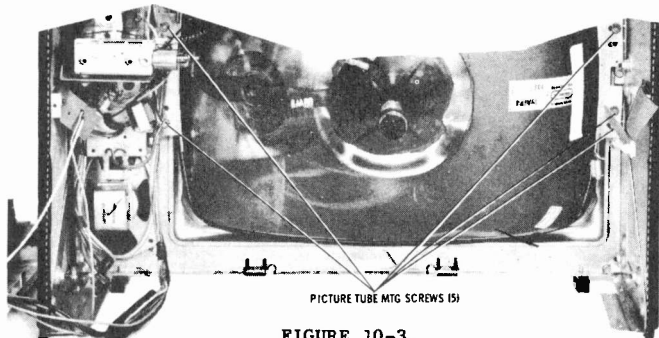
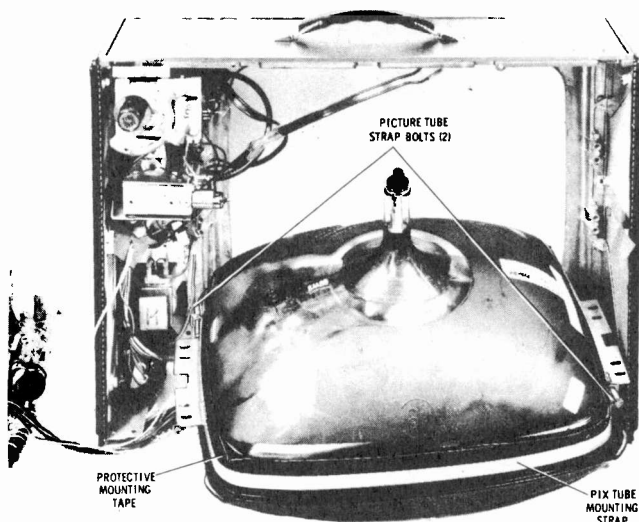

FIGURE 10-3.
FIGURE 10-4.
Place chassis alongside receiver as shown in Fig. 10-4. No further dismantling of chassis is necessary. Next remove the five (5) picture tube mounting screws shown in Fig. 10-3. Make certain the tube is held securely before the last screw is removed. Remove the picture tube by pulling the right side out (partially) first, this will allow the left hand picture tube bracket to clear the components on the control strip (CS) sub-chassis. Place tube on a soft clean cloth to avoid scratching face.
To remove picture tube mounting strap, loosen the two (2) bolts shown in Fig. 10-4.